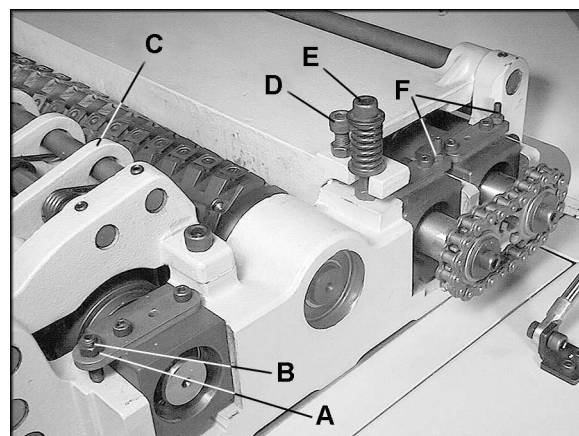
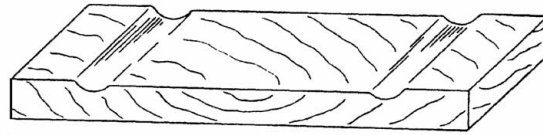

Figure 11
Figure 16
5. If it is not 1/16", correct by loosening the hex nut (A, Figure 11) and turning the adjustment screw (B, Figure 11) with a hex wrench.
6. Move the gauge to the extreme opposite end of the infeed roller and check. Make necessary adjustments. Tighten hex nuts (A, Figure 11) when finished.
The chipbreaker (C, Figure 11) is a sectionalized type made of spring-loaded sections mounted on a bar, which complements the sectional infeed roller. The functions of the chipbreaker are to break chips into small pieces, help avoid splintering of the wood, help avoid board bounce on thinner boards, to direct the flow of chips out of the machine, and to permit multiple board surfacing.
Use a gauge to set the full length of the pressure bar to be .000-.001” (.02mm) below the arc of the cutterhead. Figure 11 shows the height adjustment screw (D) and the spring tension adjustment screw (E) for the pressure bar. This initial setup is a starting point and final adjustment may have to be made during a test cut.
Adjust as necessary using the screws (F, Figure 11). When finished adjusting, tighten the hex nuts on the screws (F, Figure 11).
If clip marks occur 6" (152mm) in from each end of the board, the pressure bar is too high. See Figure 16. Turn both right and left hand adjusting screws (see Figure 11) the same amount, 1/4 turn clockwise or less, and take another 1/16" (1.59mm) deep cut. Re-examine the board.